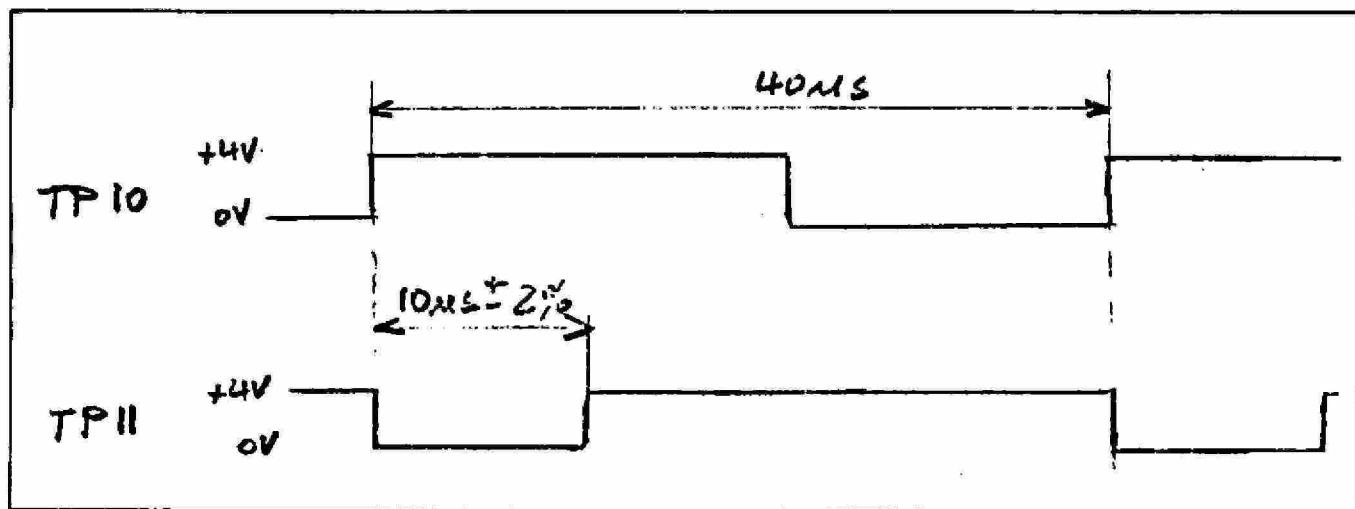

FIGURE 5-24. 90° PHASE SHIFT
- 1) Set the signal at TP11 with R96 to obtain a 25 percent duty cycle as follows in Figure 5-24.